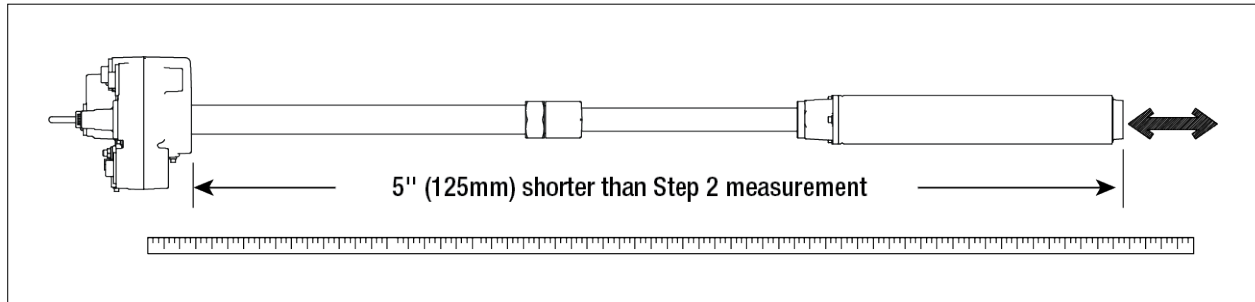

Figure 11. Adjusting Pump Length
Note: For fixed-length pumps, referencing Figure 11, verify the distance between the bottom of the manifold and the bottom of the UMP is 5 inches (125mm) (15 inches [381mm] for floating suction) shorter than the distance measured in Step 2. Uncoil the pigtail at the top of the packer. Then go to Step 7.
5. Referencing Figure 11, pull the UMP end until the distance between the bottom of the manifold and the bottom of the UMP is 5 inches (125 mm) (15 inches [381 mm] for floating suction) shorter than the distance measured in Step 2.